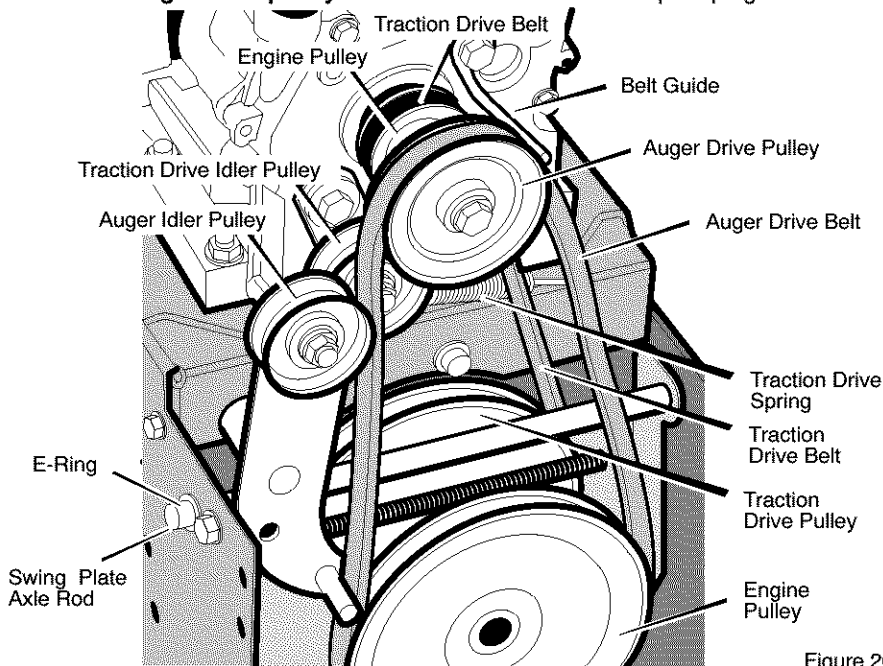

Figure 20
3. Loosen nut on auger idler pulley and move auger idler pulley towards belt about 1/8 inch (3 mm) (see Figure 20).
5. Loosen the **belt guide**. Pull the **belt guide** away from the **auger drive pulley** (see Figure 20).
3. Remove the **e-ring** from one end of the **swing plate axle rod**. Remove the **swing plate axle rod** to allow the swing plate to pivot forward (see Figure 20).